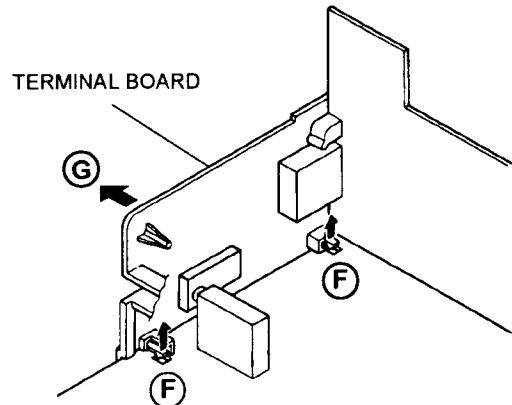
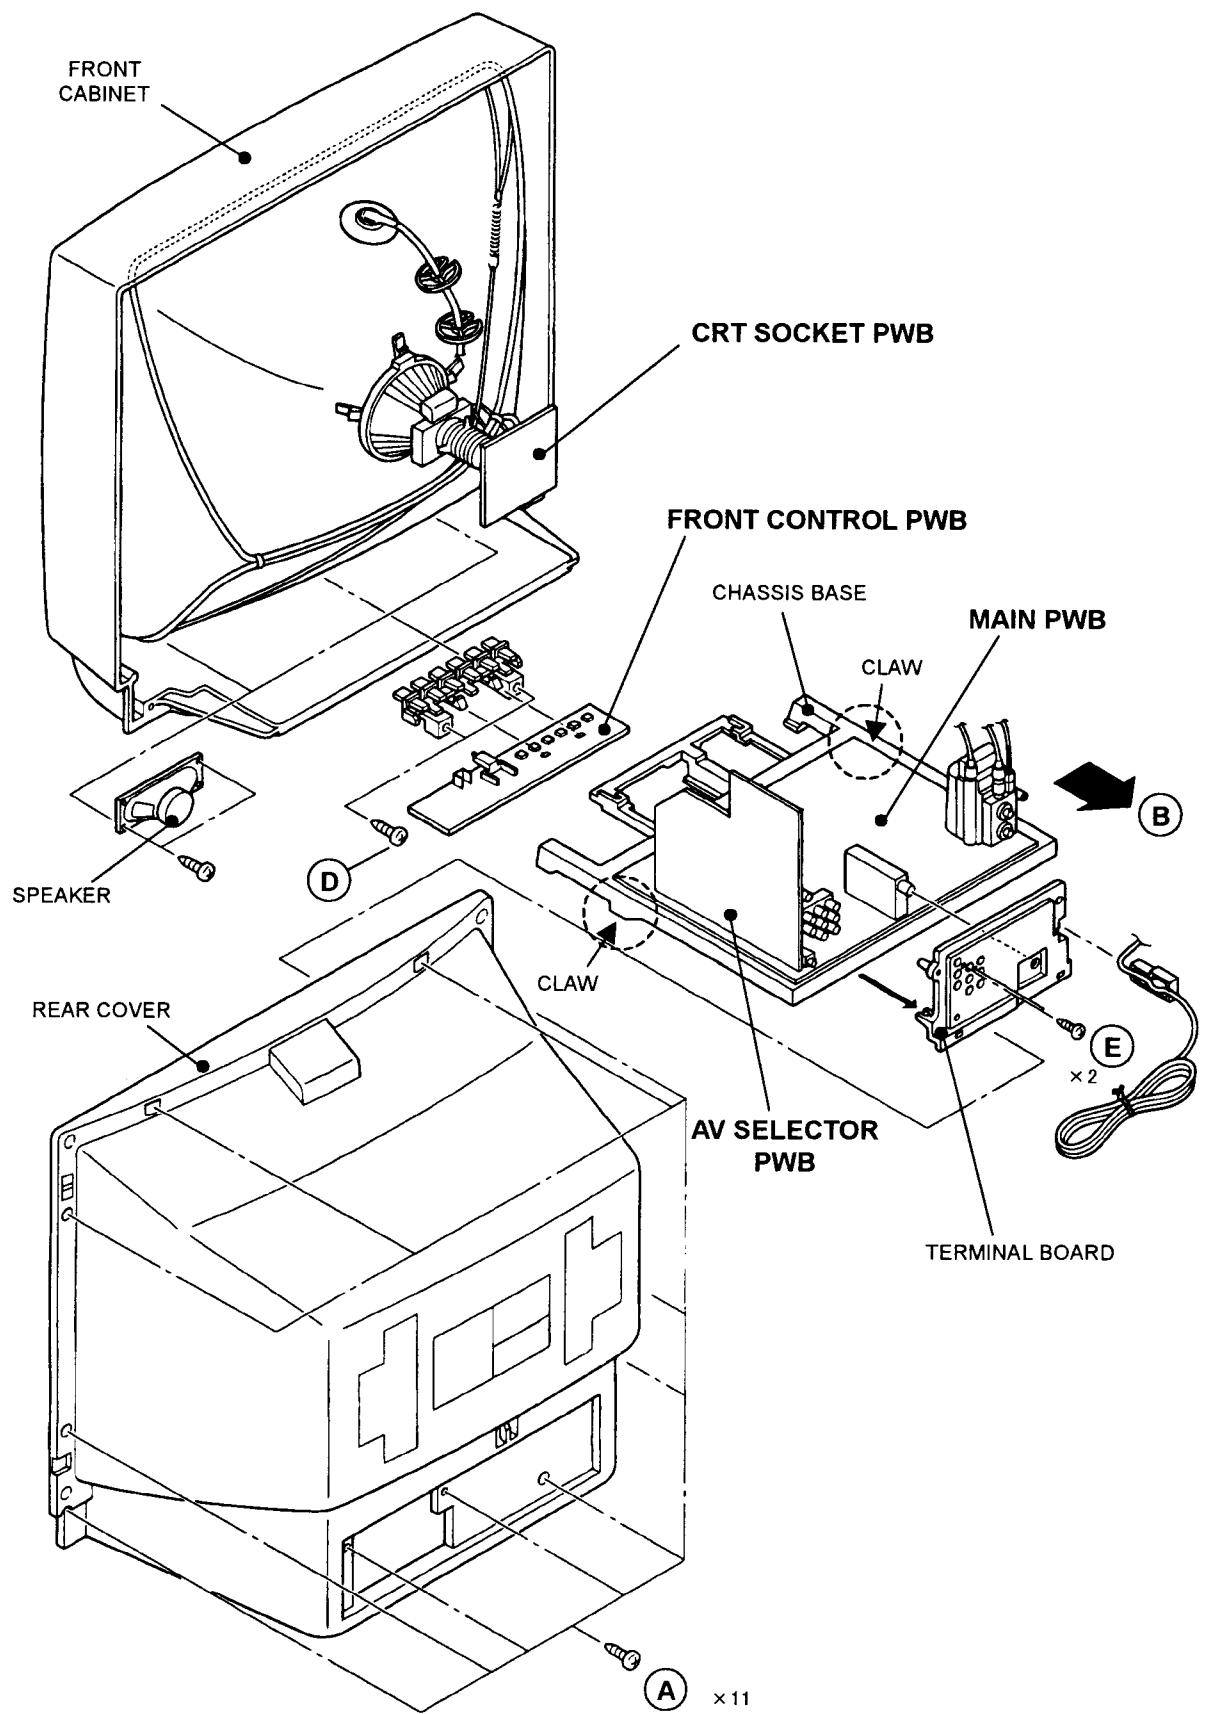

Fig. 1
Fig. 2
2. Remove the 11 screws marked **(A)** as shown in Fig.2.
2. Draw the chassis backward along the rail in the arrow direction marked **(B)** as shown in the Fig.2.
1. Remove the 2 screws marked **(D)** as shown in Fig.2.
1. Remove the 2 screws marked **(E)** as shown in Fig.2.
2. After removing the claw marked **(F)** in the direction of arrow mark as shown in Fig.1.
3. When you pull out the AV TERMINAL BOARD in the direction of arrow marked **(G)** as shown in Fig.1, it can be removed.
(1) Power off Switch off the power and disconnect the power cord from the outlet.
(2) Replace the memory IC. Be sure to use memory ICs written with the initial data values.
(3) Power on Connect the power cord to the outlet and switch on the power.
(4) System constant check and setting 1) Simultaneously press the DISPLAY key and VIDEO STATUS key of the remote control unit. 2) The SERVICE MENU screen of Fig.1 is displayed. 3) While the SERVICE MENU is displayed, again simultaneously press the DISPLAY and VIDEO STATUS keys to display the Fig.2 SYSTEM CONSTANT screen. 4) Refer to the SYSTEM CONSTANT table and check the setting items. Where these differ, select the setting item with the MENU UP / DOWN key and adjust the setting with the MENU LEFT / RIGHT keys. (The letters of the selected item are displayed in yellow.) 5) After adjusting, release the MENU LEFT / RIGHT key to store the setting value. 6) Press the EXIT key twice to return the normal screen.	 <p>Fig.1</p>
(5) Receive channel setting Refer to the OPERATING INSTRUCTIONS (USER'S GUIDE) and set the receive channels (Channels Preset) as described.	 <p>Fig.2</p>
(6) User settings Check the user setting items according to Table 2. Where these do not agree, refer to the OPERATING INSTRUCTIONS (USER'S GUIDE) and set the items as described.
(7) SERVICE MENU setting Verify what to set in the SERVICE MENU, and set whatever is necessary. (Fig.1) refer to the SERVISE ADJUSTMENT for setting.